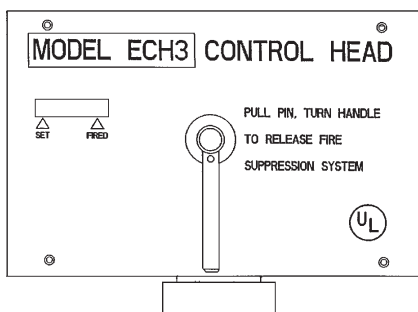

FIGURE 6
The Model ECH3 electric control head is an electrically operated control head which can be connected to the A-15/17/25/35/50/70 tank valve. This control head will support an electric thermal detection system, a remote mechanical pull station (Model RPS-M), and an electric gas shut-off valve. It will not support a fusible link detection system. A micro switch (Model MS-DPDT) is included. The Model ECH3 control head is available in both 120 VAC (Model ECH3-120) and 24 VDC (Model ECH3-24). It is equipped with a local manual control handle that allows for mechanical system actuation. Operation of the local manual control requires removing the pull pin and rotating the handle clockwise. The Model ECH3 control head can actuate a maximum of five (5) tanks. See Figure 6.